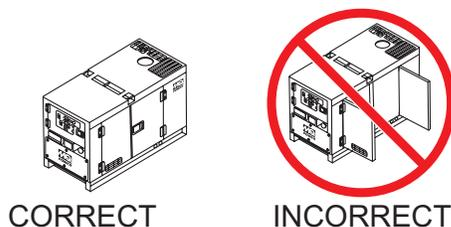

Figure 25. Engine Enclosure Doors
4. Close all engine enclosure doors (Figure 25).